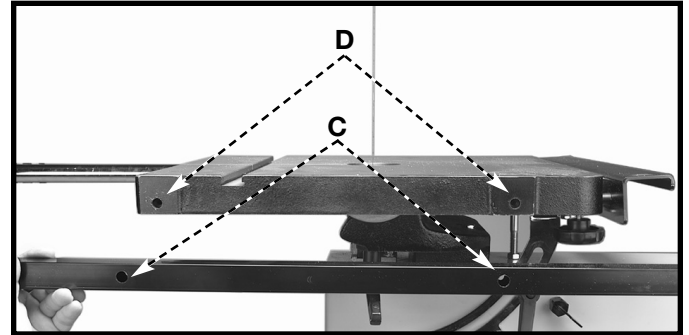
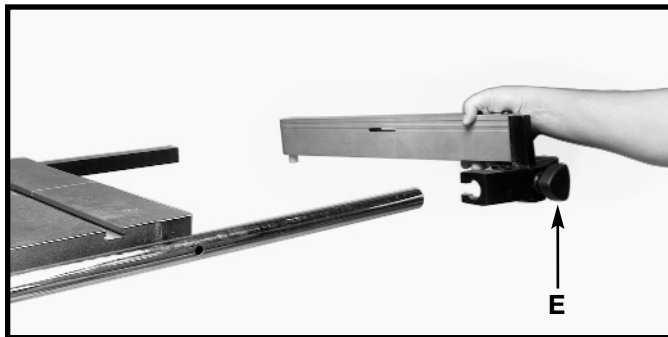
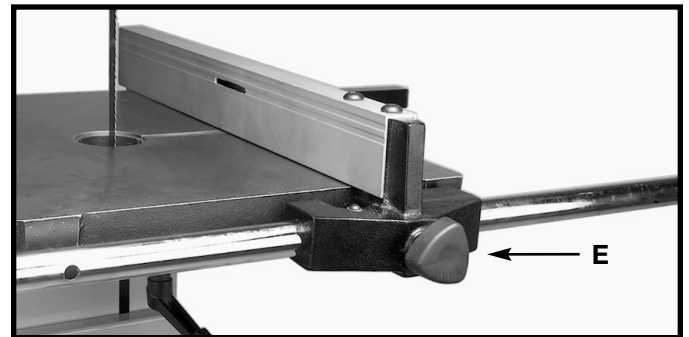

Fig. 9A
Fig. 10
Fig. 11
3. Align the two holes (C) Fig. 9A in the rear fence rail with the two holes (D) in the rear of the table.
4. Insert a 1/4-20 x 1" socket head cap screw through one of the holes (C) in the rear fence rail. Thread the screw into the matching hole in the rear of the table. Repeat for the other hole in the rear fence guide and the table. Tighten the two screws securely using the 5mm hex wrench.
5. Loosen the fence lock knob (E) Fig. 10 and position the opening of the fence bracket over the front guide rail. Slide the fence on the fence guide rail (Fig. 11).
6. Tighten fence lock knob (E) Fig. 11.